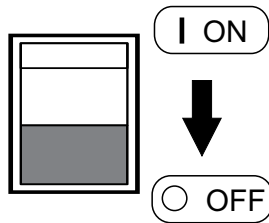

Figure 41. Idle Control Switch ON (GFCI Test)
2. Place idle control switch (Figure 41) in the **OFF** position. This will allow the engine speed to run at about 3600 RPM's (*high speed*).